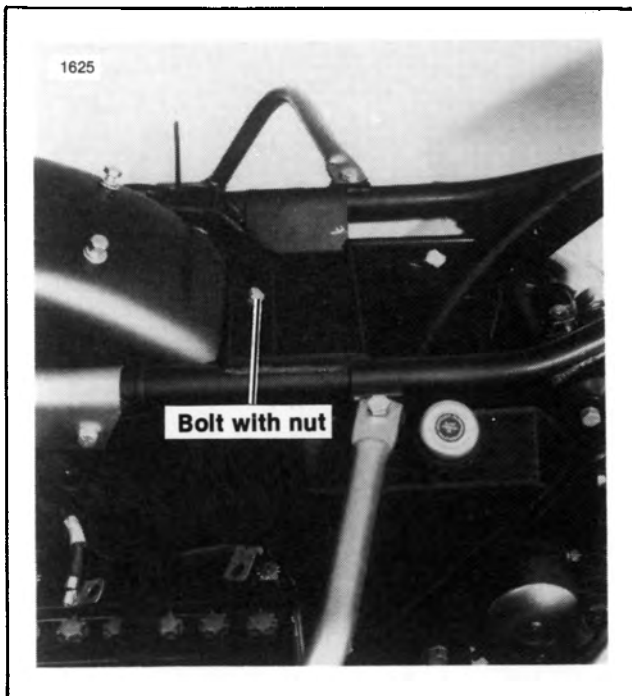

Figure 2-155. Rear Fender Mounting — FLT
6. See Figure 2-155. Remove the 5/16-24 bolt and nut that secure the fender to the cross frame.
5. See Figure 2-155. Position fender and replace the front mounting bolt and nut. Tighten front mounting bolt to 19 ft-lbs torque.